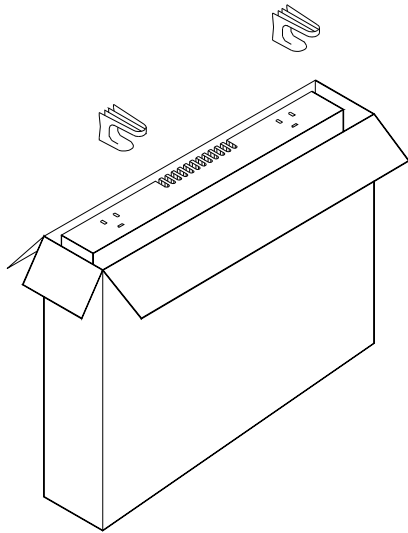

fig 1
2.- Open the carton at the indicated side and fix the feet without removing the heater casing (fig 1). The screws are in the accessories bag. Turn the carton upside down to allow the heater to stand on its feet and remove the carton. Check that it is the correct model and that it is in good condition.